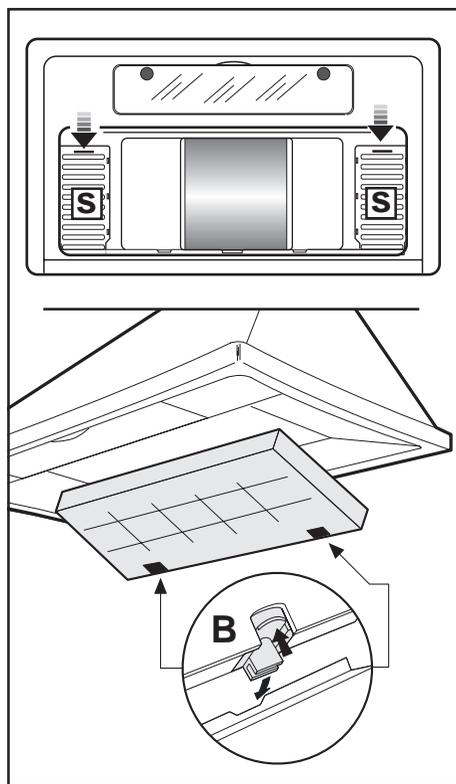

Fig. 3
- To install the filter, fit it in the seat at the front and fasten it at the back with the two hooks **B** (Fig. 3).
Attention! Close the shutter **S** before using this version of the hood (Fig. 3).